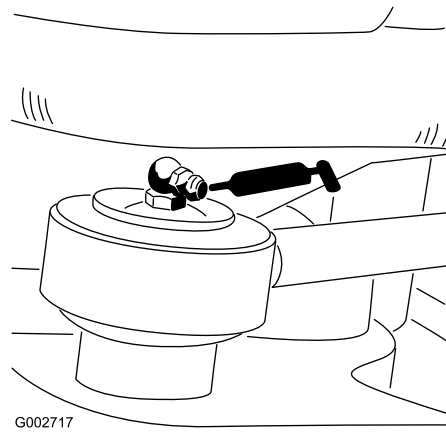

Figure 22
- Steering cylinder rod end (1)—Model 08705 only (Figure 22)